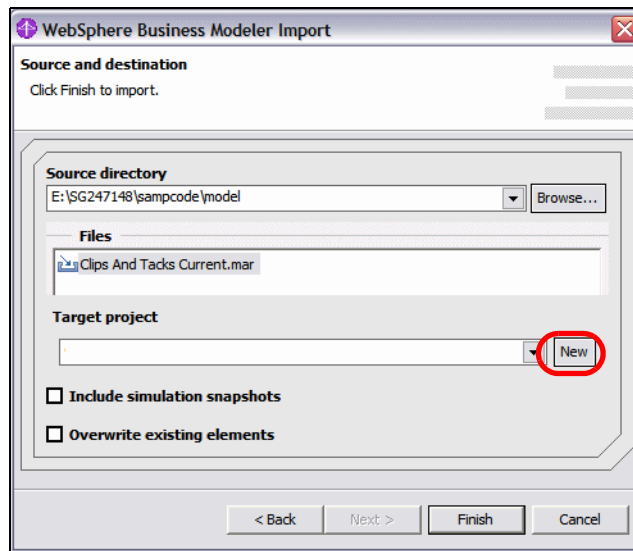

Figure 5-3 Importing a model
- ▶ Click *Browse* to select the source directory that contains the file you want to import (Figure 5-3).